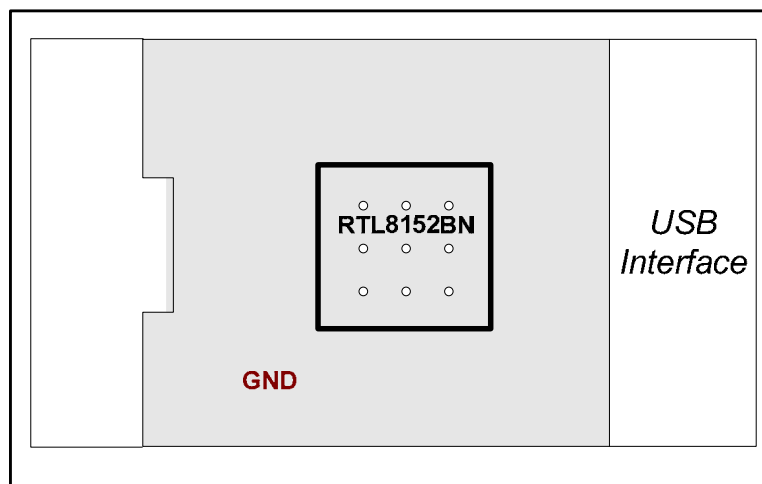

Figure 6. Ground Plane Layout-1 (RTL8152BN)
- RTL8152BN: The size of the center EPAD ground is 4.4mm x 4.4mm. The PCB layout requires 9 vias to connect the EPAD to the lower layer ground plane (see Figure 6)